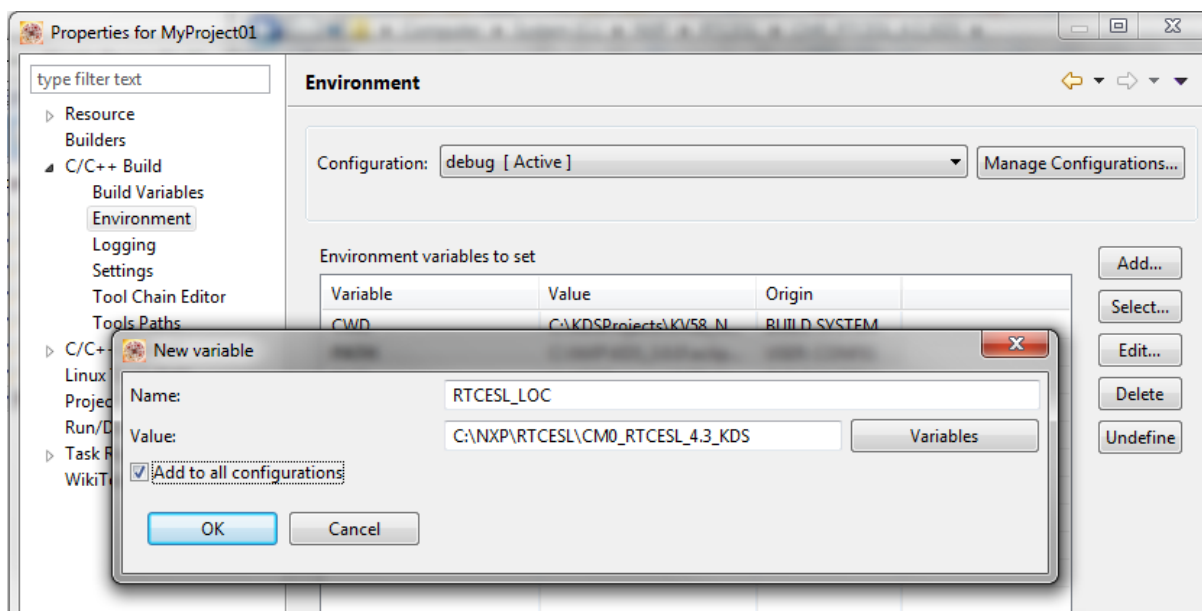

Figure 1-8. Environment variable
8. In the dialog that appears (see Figure 1-8), type this variable name into the Name box: RTCESL_LOC.
10. Tick the Add to all configurations box to use this variable in all configurations. See Figure 1-8.